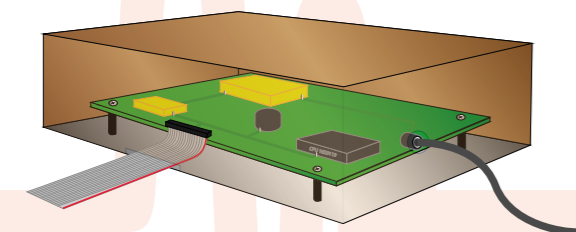

Figure 15.2 : Shielding the entire PCB
**Level II** The entire PCB is shielded by foil, wraps or a box or the PCB and all the cables are connected inside the shielded box. (Fig. 15.2)